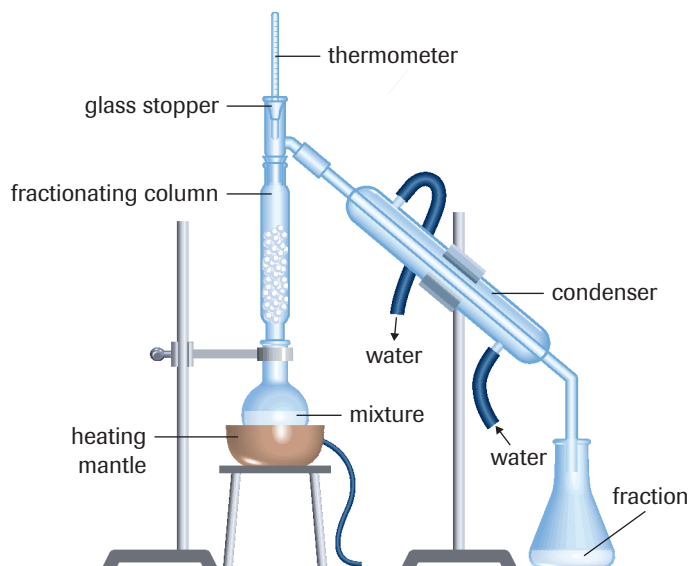

Figure 1
- After most of the pentane has boiled off, when the column temperature rises noticeably, change collection flasks at the outflow of the condenser (**Figure 1**).